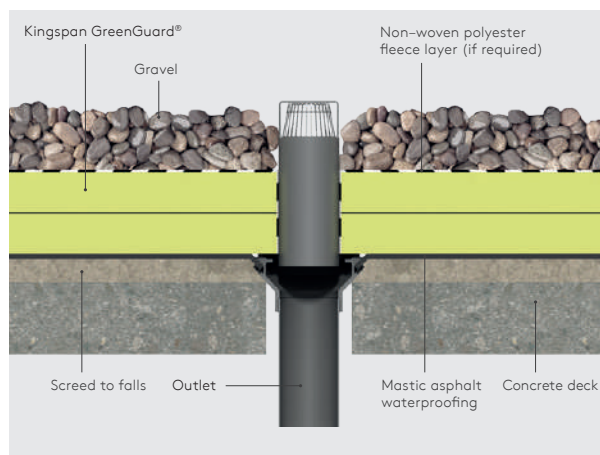

Figure 8 - Two level drainage
- Insulate internal rainwater downpipes and other pipes that penetrate the roof if they pass through spaces with a high humidity and if any condensate will damage the structure or internal finishes. Use Kingspan GreenGuard® around the pipe outlet and wrap joints with vapour resistant tape to restrict water vapour from reaching the pipe (see Figure 8).